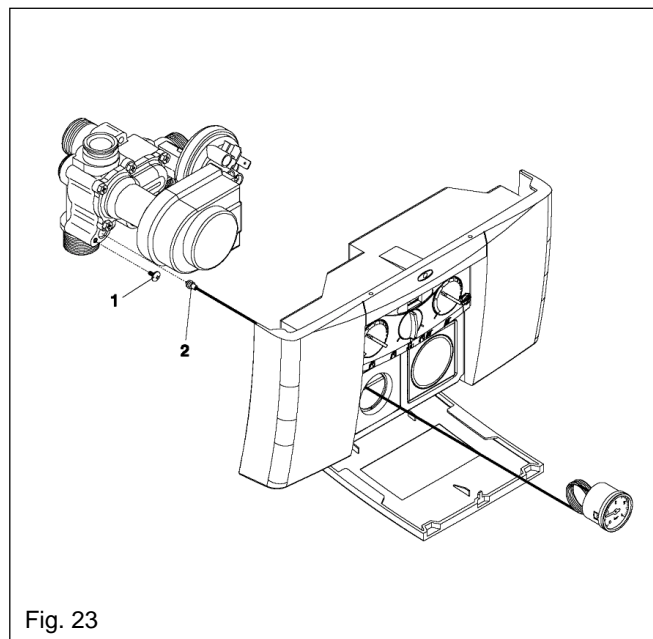

Fig. 23
6.9 PRESSURE GAUGE (see fig. 23)